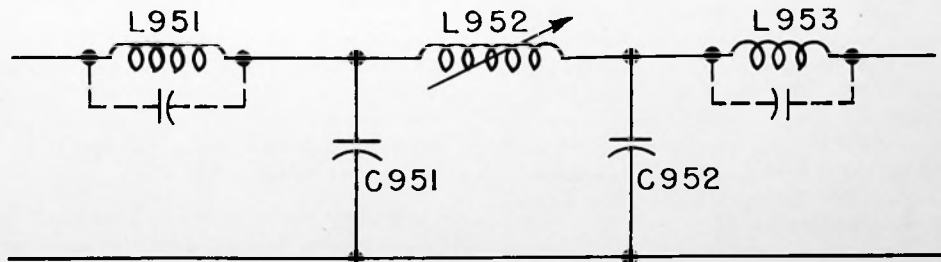
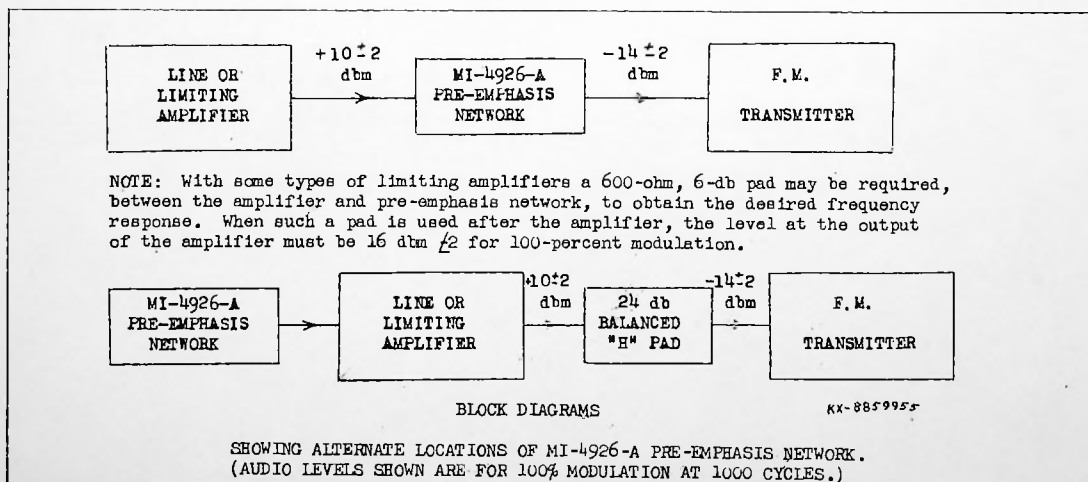

Figure 2—Harmonic Filter, Equivalent Schematic Diagram
Figure 5—Location of Pre-emphasis Network
G. Harmonic Filter—A harmonic filter is supplied for use in series with the transmitter output, and may be inserted at any convenient place in the output transmission line. An equivalent schematic diagram of this unit is shown in Figure 2. Electrically, the filter functions as a low-pass filter presenting essentially no attenuation at the fundamental frequency, but attenuating the harmonic frequencies in the output tank circuit. Physically the input and output circuits of the harmonic filter consist of $1/8$ wave shorted transmission line sections. At the second harmonic frequency these sections are $1/4$ wave long, and thus present a high series-impedance to the second harmonic frequency. Only one adjustment is required to cover the FM broadcast band. This adjustment depends on the frequency, and is determined from the curve shown in Figure 5. This adjustment should provide for a minimum standing wave ratio (SWR). If after adjustment has been made the SWR is high, the filter should be adjusted for minimum SWR.